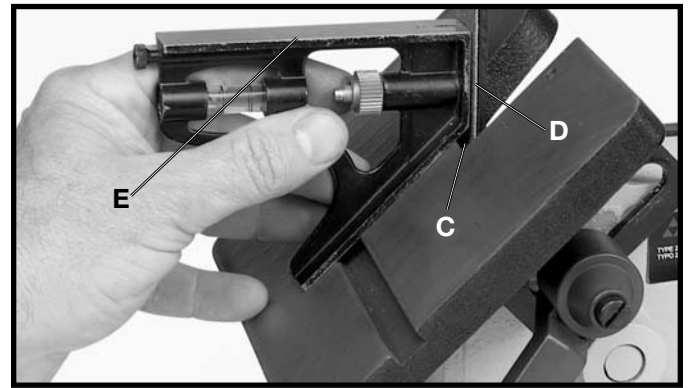

Fig. 27
The table can be tilted 45 degrees to the front, as shown in Fig. 27, by loosening lock lever (B). Use a combination square (E) check to set the table at 45 degrees to the belt and tighten lock lever (B).